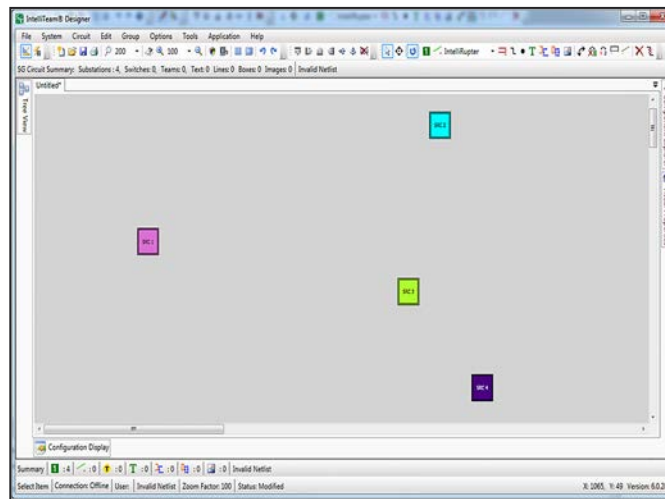

Figure 35. Add sources to the drawing space.
- STEP 3.** Move SRC 4 to the lower right-hand corner of the drawing area and SRC 1 to left side. Then, select SRC 2, SRC 3, and SRC 4. See Figure 35. Press and hold the <Ctrl> key while clicking on each object with the mouse cursor to select multiple devices at once.